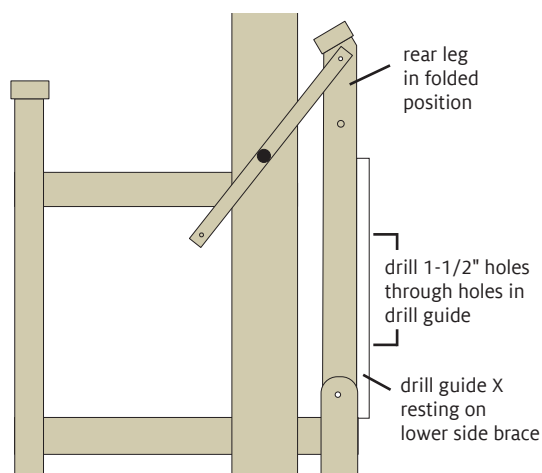

FIGURE 9: DRILL GUIDE X
2. Place drill guide X over the back of a rear leg as shown in Figure 9. Rest the drill guide on the lower side brace and be sure the end marked TOP is facing up.